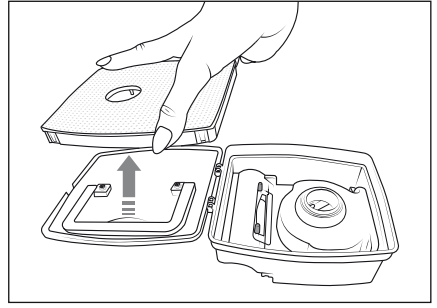

Fig. 9
- 4) Pull the EPA filter 7 off the lid of the dust container 12 (see Fig. 9).